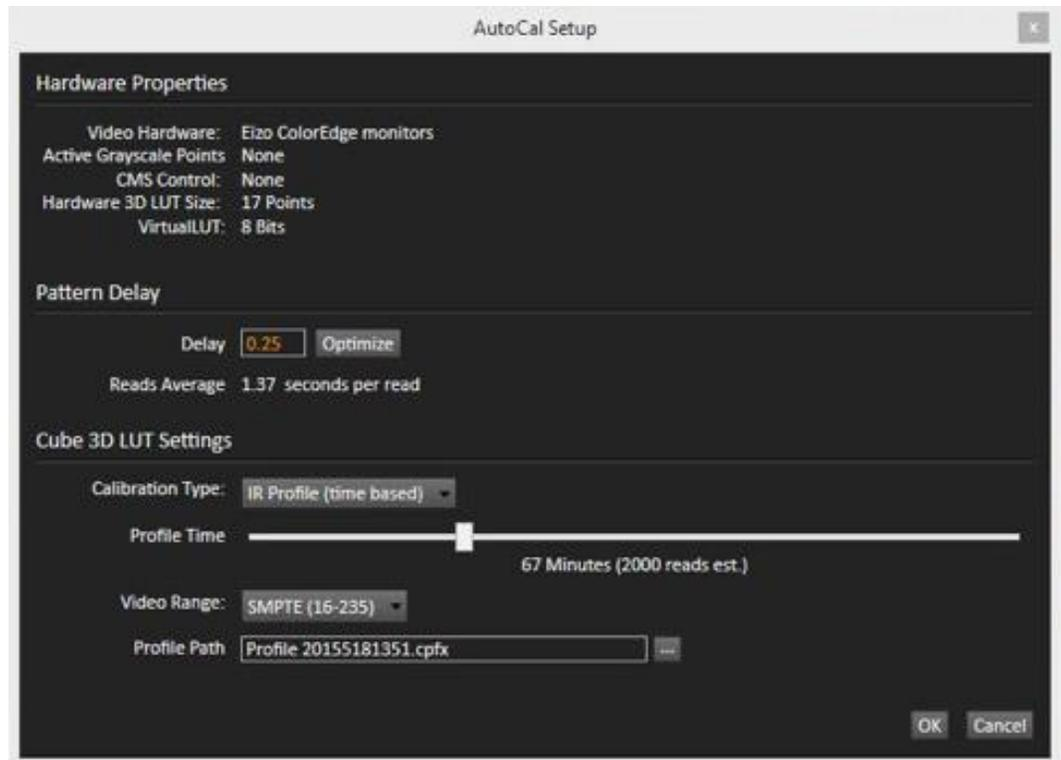

Figure 3. CalMAN 3D LUT AutoCal Setup dialog.
1. On the *3D Cube LUT* page, click the *AutoCal* (rotating arrows) button at the right end of the meter action buttons. The *AutoCal Setup* dialog then appears (Figure 3).